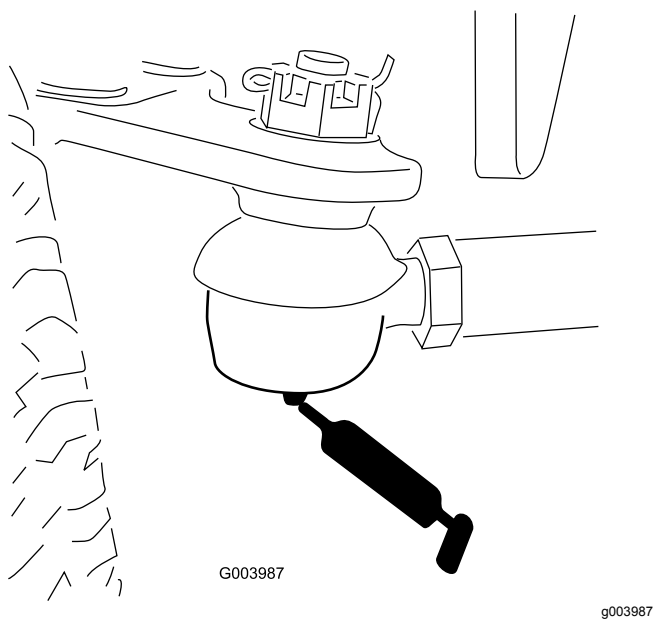

Figure 64
- Rear axle tie rod (2)—Figure 64